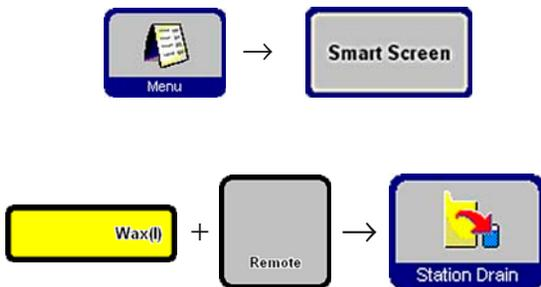

Fig. 51
- Select the wax bath to be drained and the remote container ("Remote", Fig. 51). Then press **STATION DRAIN**.